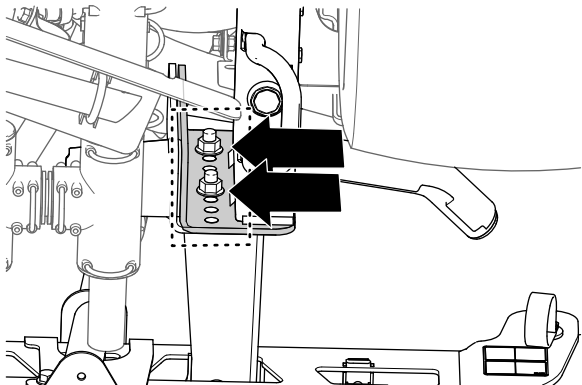

Figure 44
- 3. Use a piece of tape to mark the holes where the 4 flange-head bolts (1/2 x 1-1/4 inches) and 4 flange locknuts (1/2 inch) secure the support brackets for the center-spray section to the mounting plate of the machine (Figure 44).